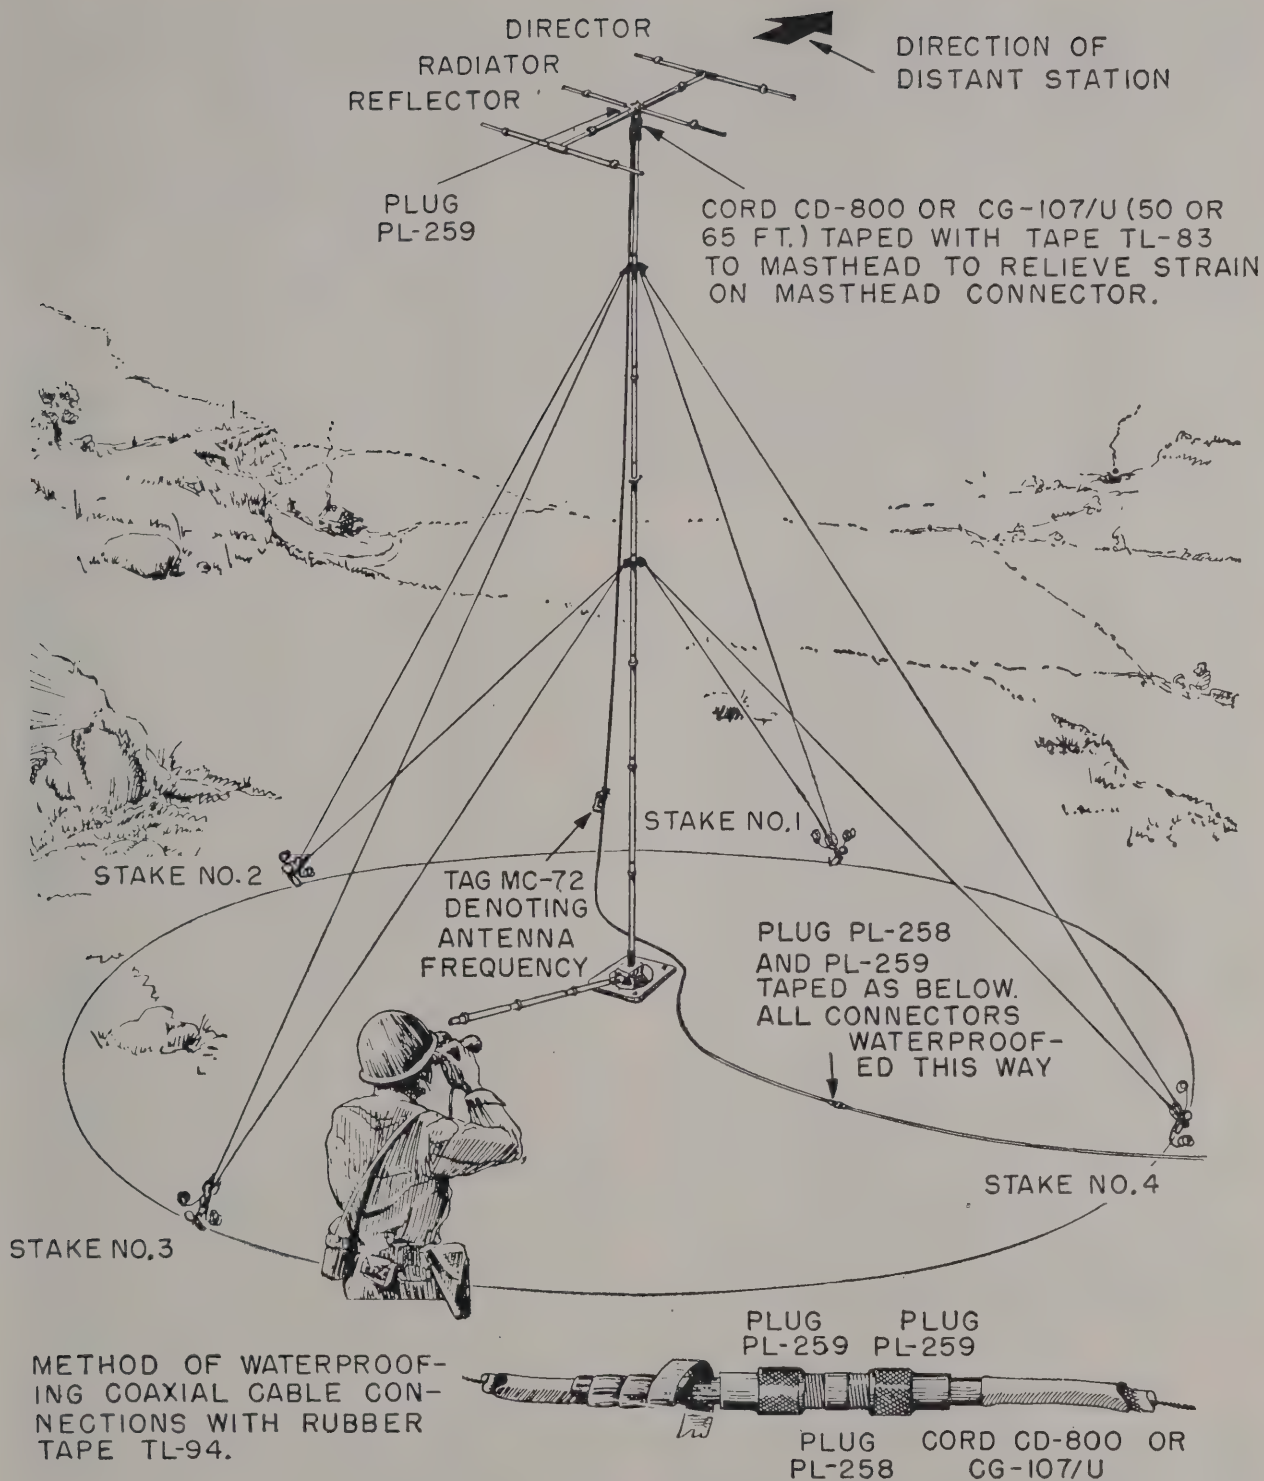

Figure 62. Antenna System AS-19(*)/TRC-1, using 40-foot mast, completely installed.
be rotated through 360° by using the gin-pole as a lever (fig. 62). This does not disturb the guys in any way, but
- (26) Mark one Tag MC-72 with the frequency of the antenna just erected and tie it about 5 feet off the ground (fig. 62) on the cord attached to the mast-head.
- (27) Install other Antenna Systems AS-19(*)/TRC-1 that use a 40-foot mast in the manner described above.
- (28) Connect the plug on the bottom end of Cord CD-800 or CG-107/U (50- or 65-foot) to the ANTENNA connector on Radio Transmitter T-14(*)/TRC-1, the ANTENNA connector on Amplifier AM-8(*)/TRA-1, or the ANT. INPUT connector on Radio Receiver R-19(*)/TRC-1.
- (7) Tape Cord CD-800 or CG-107/U to the upper portion of the mast extension and to the lower portion of the masthead, so the weight of the 65-foot cable is removed from the fragile connector. Use Tape TL-83 for this operation. Waterproof the coaxial cable connections as shown in figure 62.
- (8) The mast assembly is now complete and ready to be raised to the vertical position. While one man pulls on the hauling rope of the block and tackle assembly to raise the mast, another man should assist by walking toward the mast base under the mast and pushing the mast upward while walking. When the mast is in a vertical position, unhook the guys from the gin pole guy plate and fasten the bails of the Pul-tite clamps to the snap and
tem AS-19(*)/TRC-1. Fasten the sleeves firmly and cover the complete coupling with rubber tape TL-94 (fig. 62).